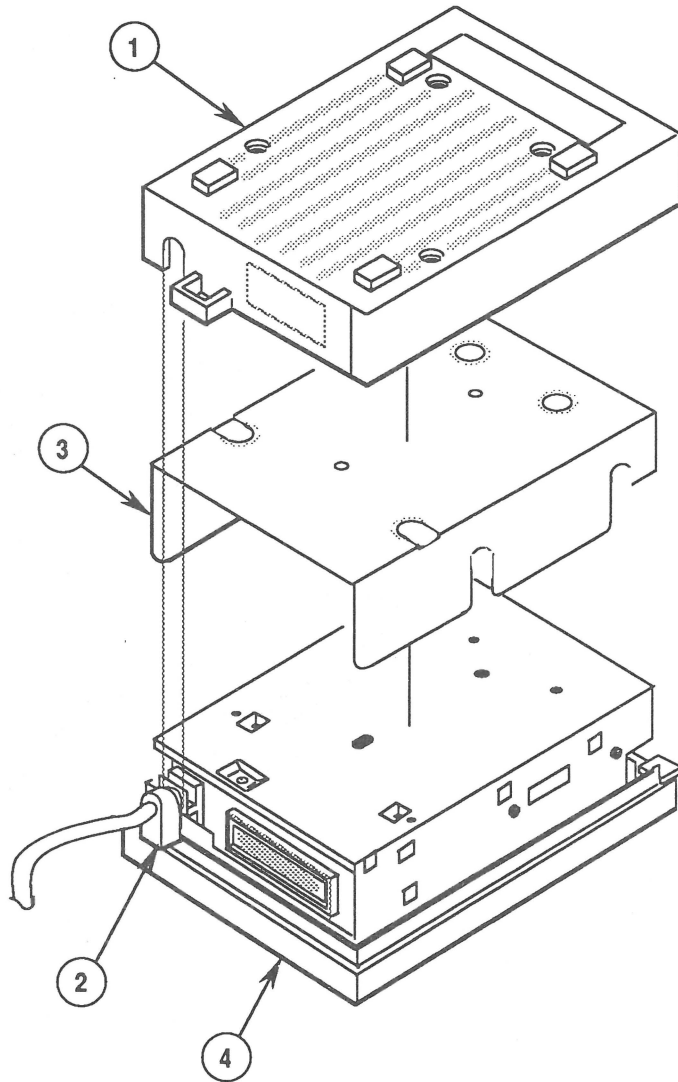

FIGURE 2
3. Pull the case bottom (Figure 2, #1) off the rubber, external drive cable anchor (Figure 2, #2).
4. Remove the floppy metal shield (Figure 2, #3) from the drive assembly.
5. Pull the rubber, external drive cable anchor (Figure 2, #2) off the case top (Figure 2, #4).